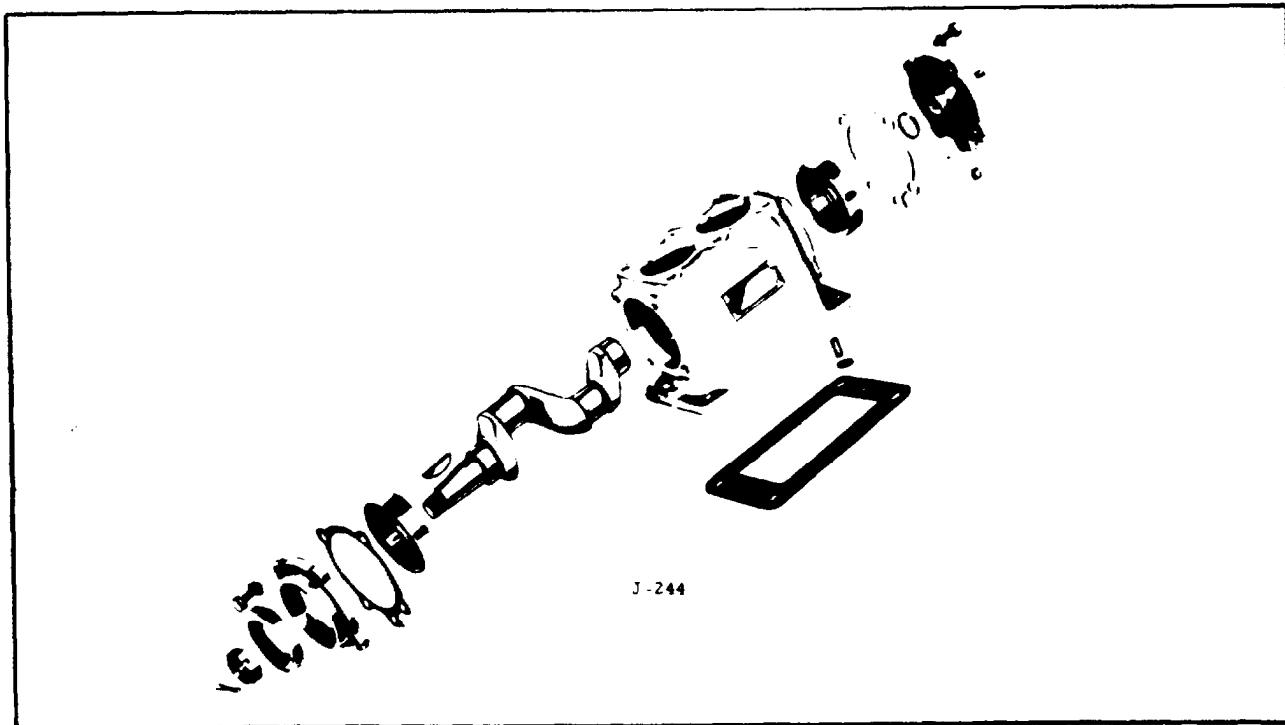

FIGURE 12-8.
**12-26. DISASSEMBLY OF CRANKCASE** (see figure 12-8).
l. Clearance between cast iron pistons and cylinder bores should be between 0.002 inch minimum and 0.004 inch maximum (.0508 mm to .1016 mm) (see figure 12-8). Aluminum pistons are cam ground.